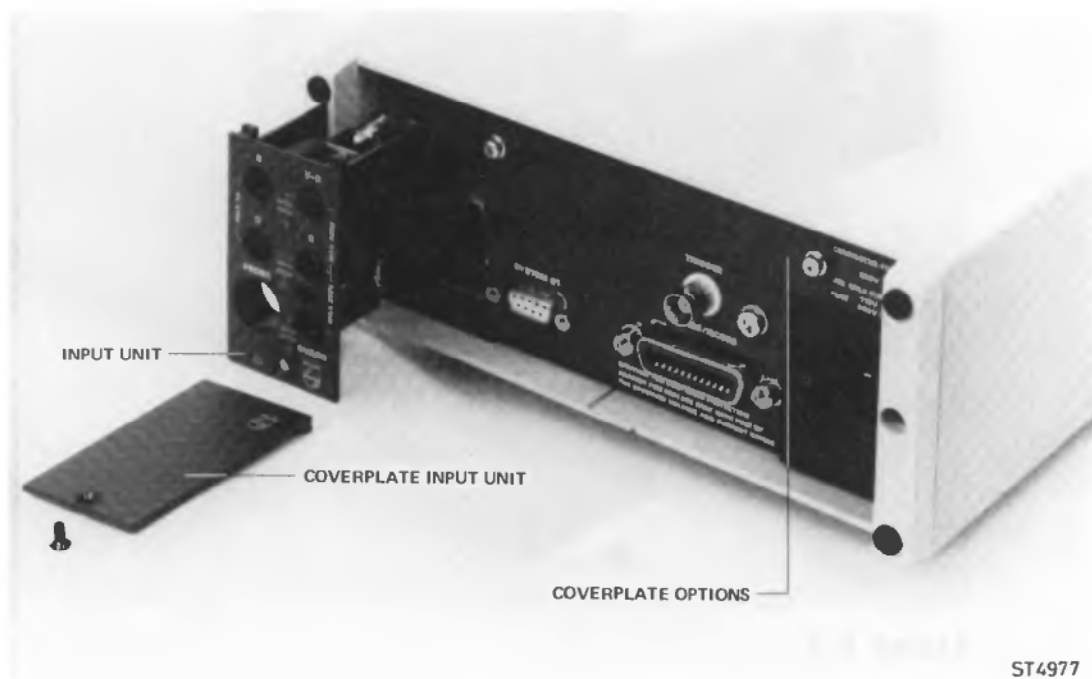

Figure 6.4
6.2.4 Interchanging input unit (figure 6.4)